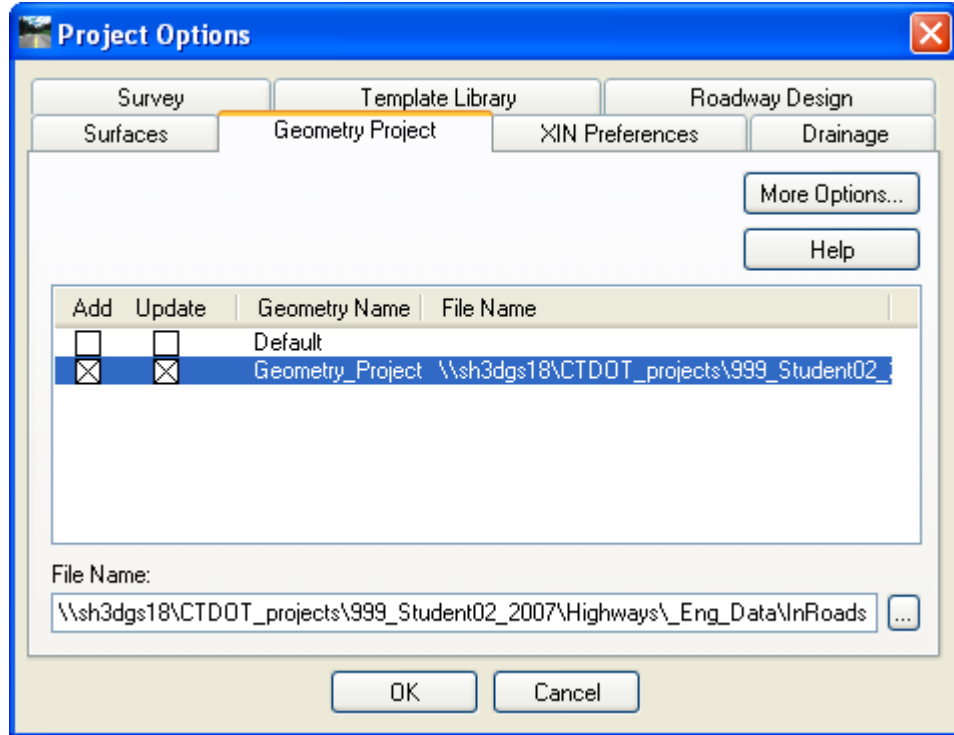

Figure 5-5 InRoads Project Options Dialog Box
- G. Save files in the RWK (Project). Click to **File > Save As** on the InRoads Main Menu. Change Save as type to **Projects (*.rwk)**. Click the **Options (...)** button on the lower right corner of the Save As dialog box. The Project Options dialog box will appear (fig. 5-5). Check **Add and Update** and click **on each file under file name** for all the files listed under each tab.